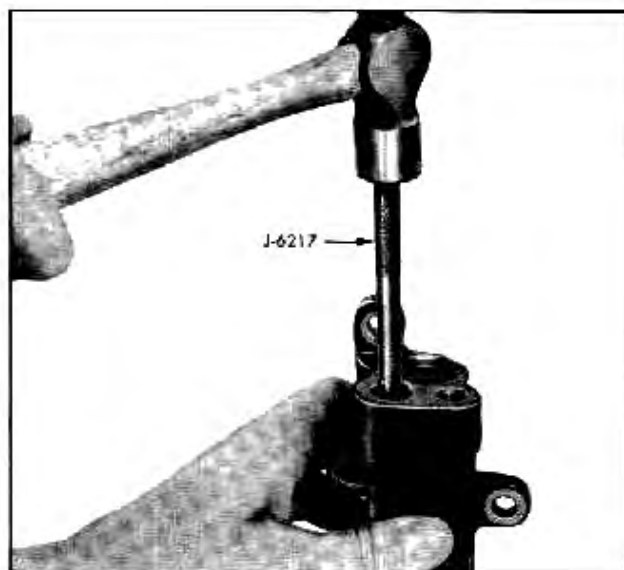

Fig. 9-41 Replacing Connector
4. Replace connectors by driving into place with tool J-6217 (Fig. 9-41).